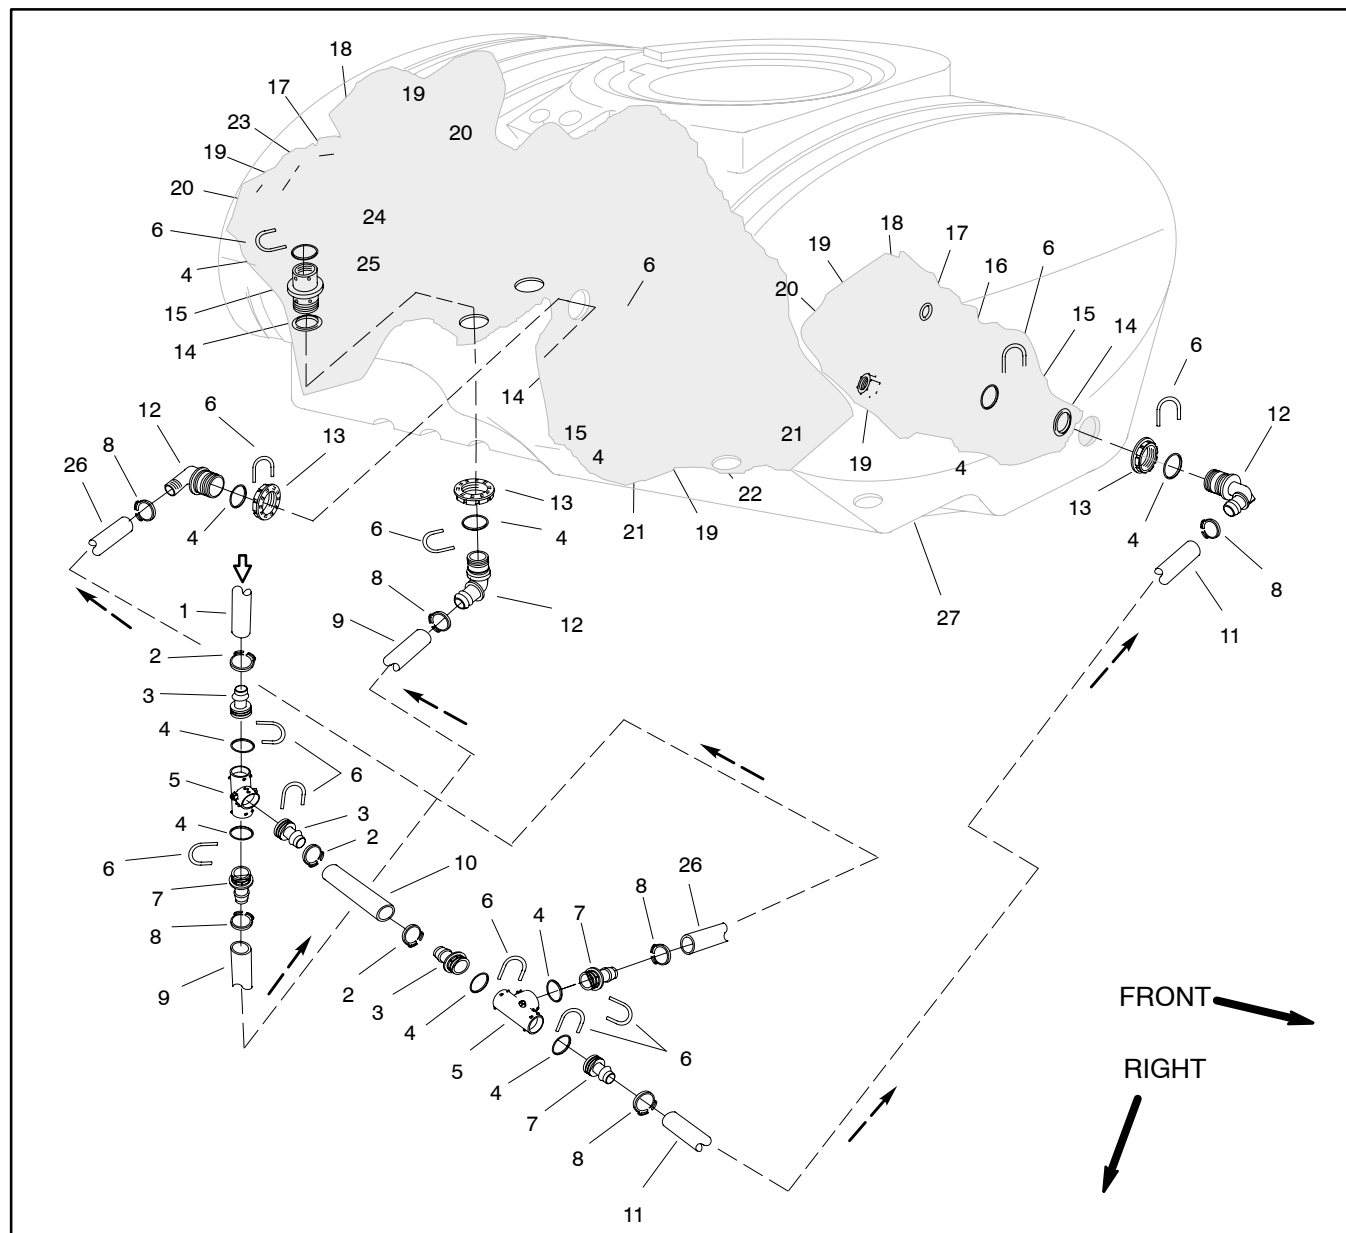

Figure 17
Disassembly (Fig. 17)
4. Remove agitation nozzles as required using Figure 17 as a guide. Discard all removed o-rings and gaskets.
Assembly (Fig. 17)
1. Install agitation nozzles using Figure 17 as a guide. Replace all removed o-rings and gaskets.